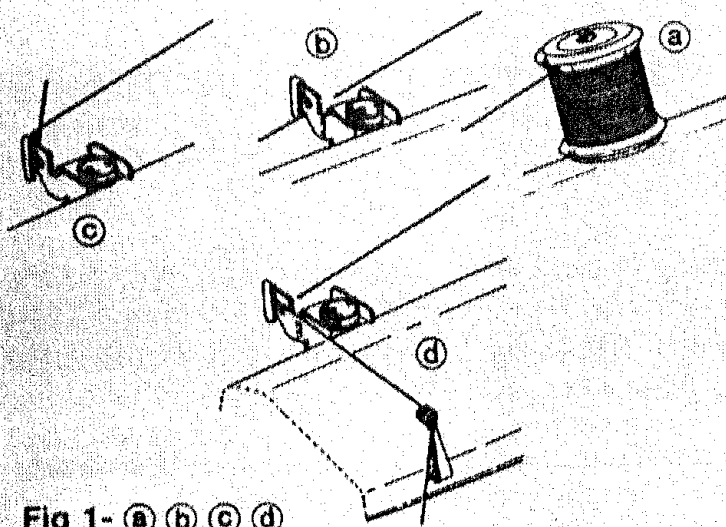

Fig 1- a b c d
1. To install the machine in cabinet, position machine head on cabinet platform so that holes on bottom of machine match those on boards. Insert washers and screws and tighten into place. (Fig. 1)
(Fig. 1)
1. Remove the extension table from the machine by folding the support leg up and pulling table to the left. (Fig. 1, 2)
2. To replace the table, simply slide it along the free arm to its original position and place supporting leg in down position. (Fig. 1)
1. Place thread on spool pin as shown, with the threading coming from the back of the spool (Fig. 1-a). Draw thread through the rear thread guide (Fig. 1-b, 1-c). Pass thread through top thread guide (Fig. 1-d).